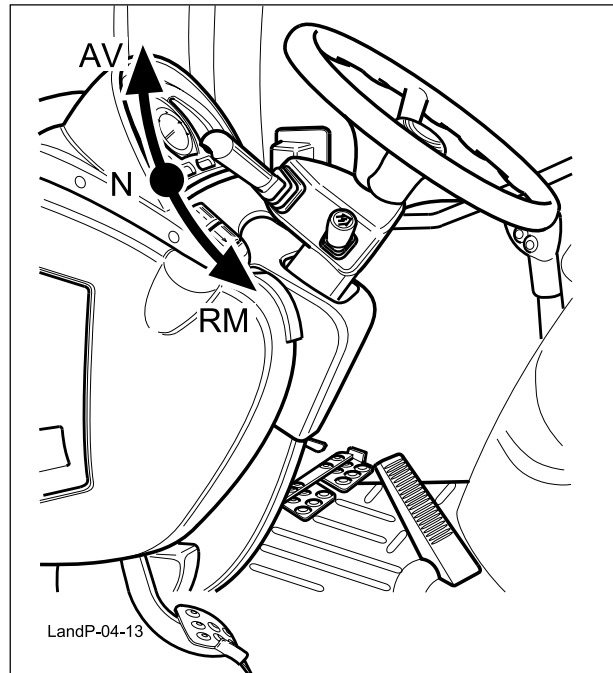

Fig. 4-15
1. Orange coloured shuttle control lever at the left of the steering wheel (Fig. 4-15).